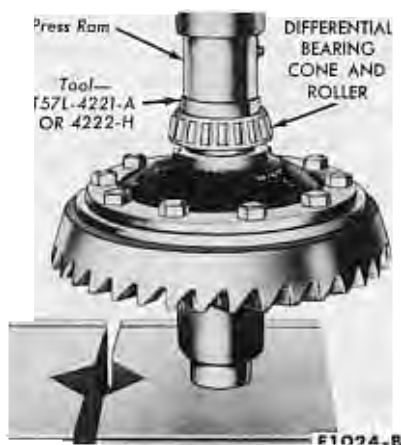

FIG. 52—Installing Differential Bearing
7. If the differential bearings have been removed, press them on as shown in Fig. 52.